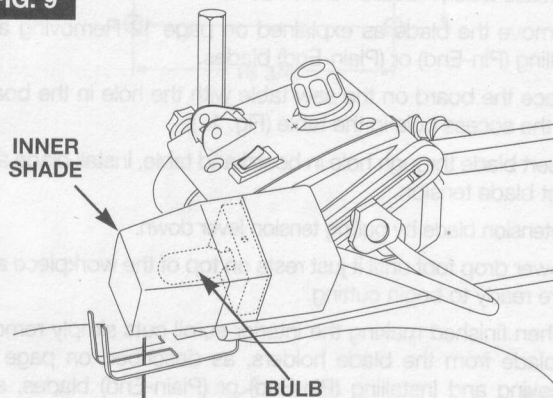

FIG. 10
1. To turn power ON or OFF push the power switch (Fig. 10).
1. Your saw is equipped with a variable speed dial. The blade stroke rate may be adjusted by simply rotating the dial (Fig. 10).